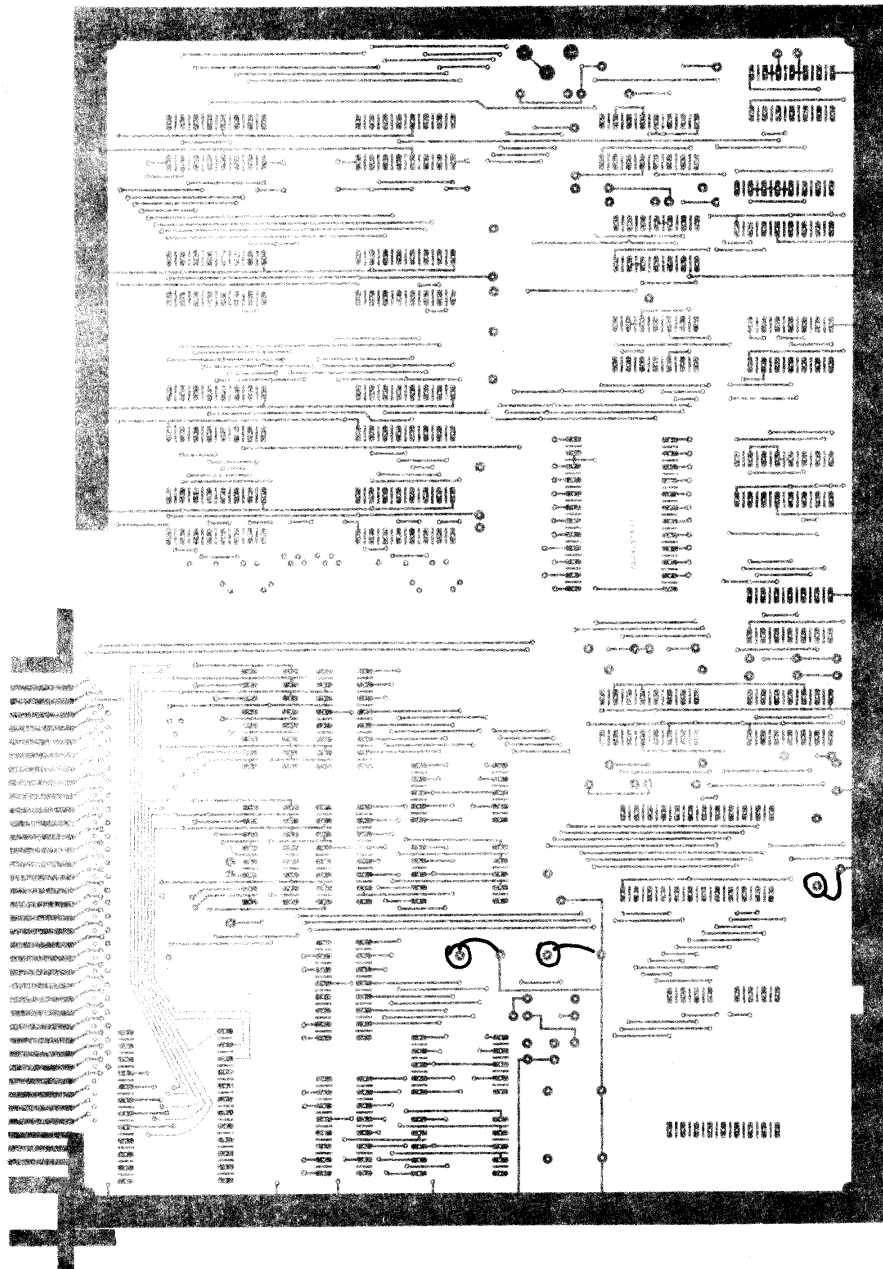

Figure 8. Push Button Switch Locations and Grounding
- (.) Remove three push button switches. Install them in the holes indicated in Figure 8. Tighten each nut firmly but without undue force. Align the contact vertically as before.
- (.) Cut three 1-1/2 inch pieces of wire. Strip 1/16th to 1/8th of an inch of insulation from each end. Connect and solder one end to the bottom contact of each switch. Connect the other end to the solder pad indicated in Figure 8.